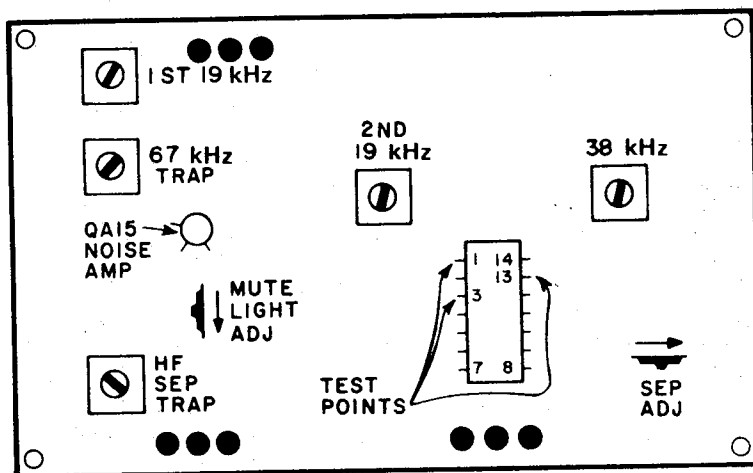

FIG. 1
- (b) Set Balun switch for 300Ω position, use balanced input attenuator. See Figure 1 below.
- With the two pots at maximum in direction shown by Figure 1, prepare to align the 67 kHz trap and the HF SEP trap. Tune to a signal modulated with 67 kHz and with a low capacity troubleshooting probe on IC pin 3, adjust the 67 kHz trap for minimum output. Leave probe on pin 3, tune to a stereo signal, and adjust HF SEP trap for a straight base line as shown in Figure 4.